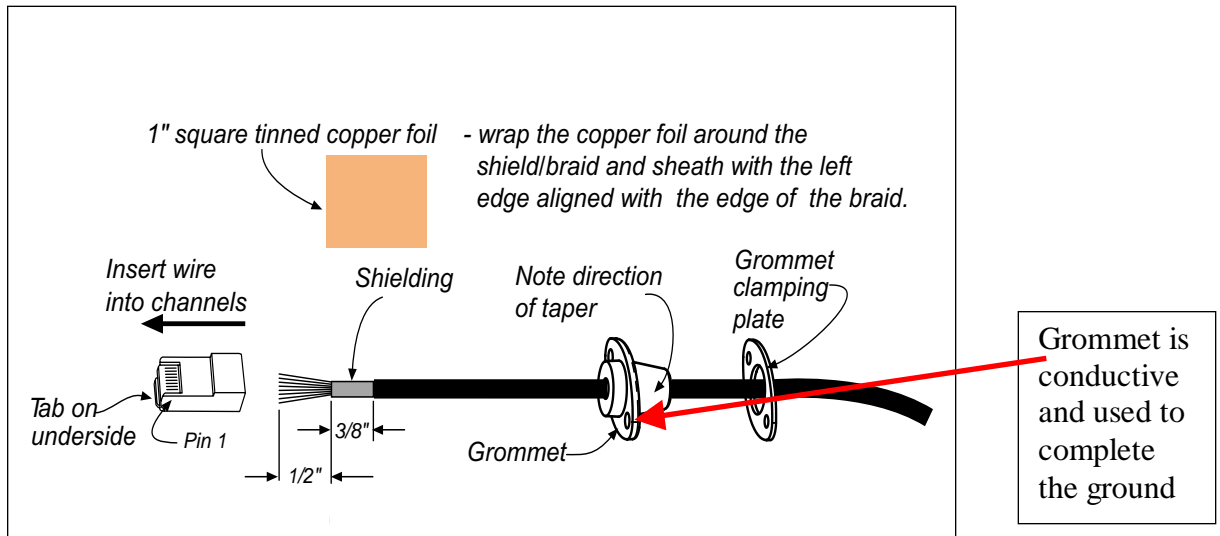

Figure 5-12 Outdoor Transceiver End of the Interconnect Cable with Cable Preparation
5. Using a piece of 1 inch squared tinned copper foil, wrap the foil around the shield/braid and sheath with the left edge aligned with the edge of the braid, as shown in the following Figures 5-12 and 5-13.